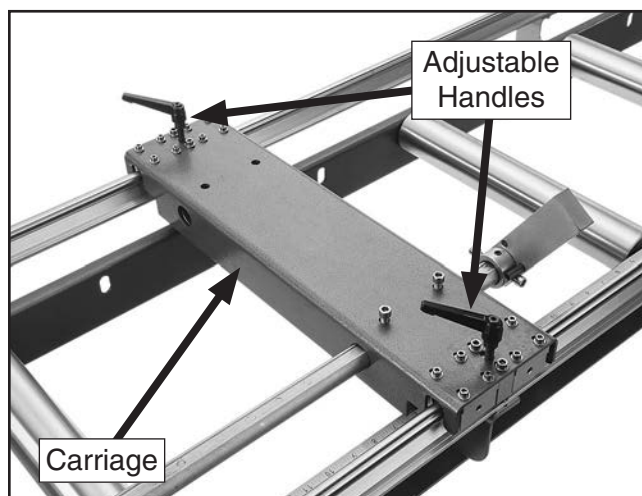

Figure 6. Adjustable handles installed on carriage.
6. Install adjustable handles on carriage, as shown in **Figure 6**.